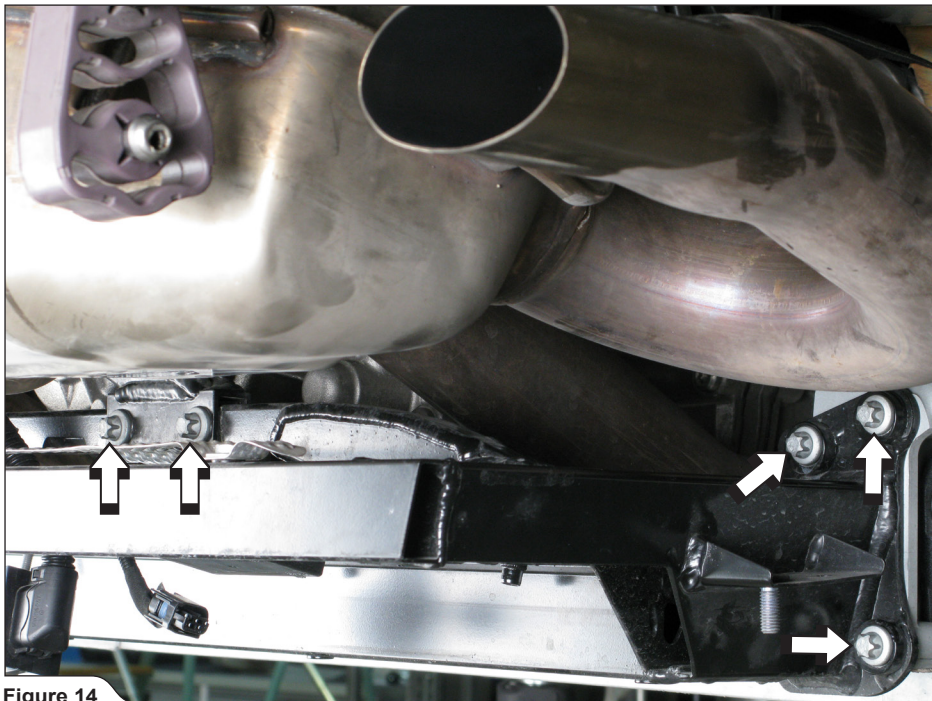

Figure 14
11. Unscrew the marked bolts on both sides of the bracket and carefully remove the hand-brake system bracket off the vehicle (Figure 14).